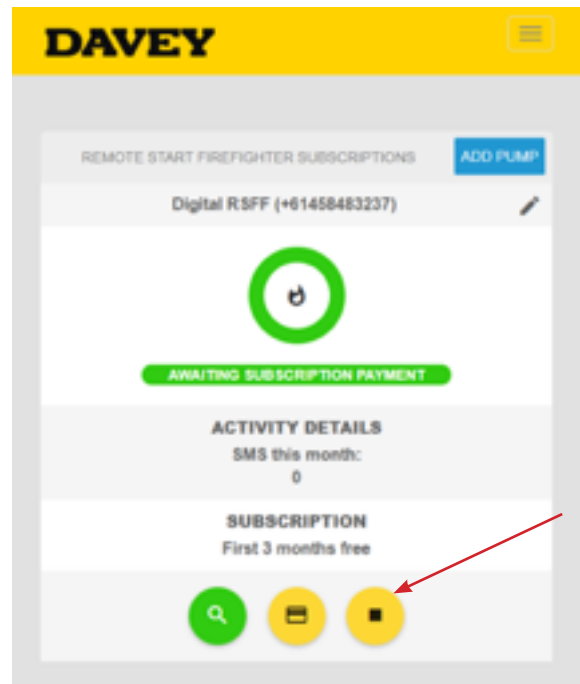

Figure 7.18
- > To stop recurring subscription payments, click the square to the right (Figure 7.18).